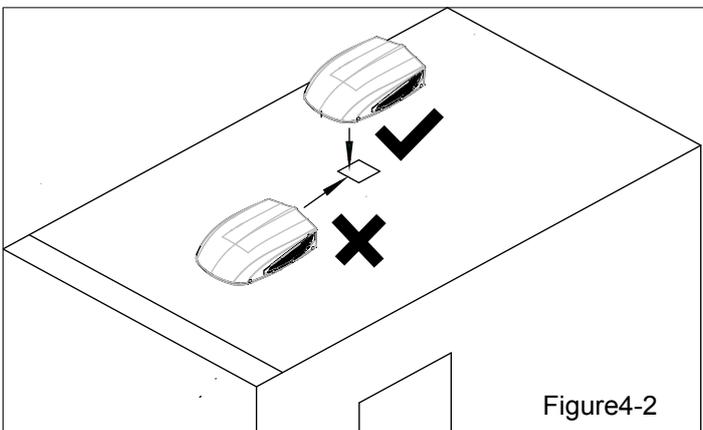

Figure4-2
1) Place the outdoor unit at the roof of vehicle; lift the outdoor unit and then place the outdoor unit after drilling holes at the roof of vehicle. Do not drag the outdoor unit. Otherwise, the sealing strip may fall off (see Figure4-2).